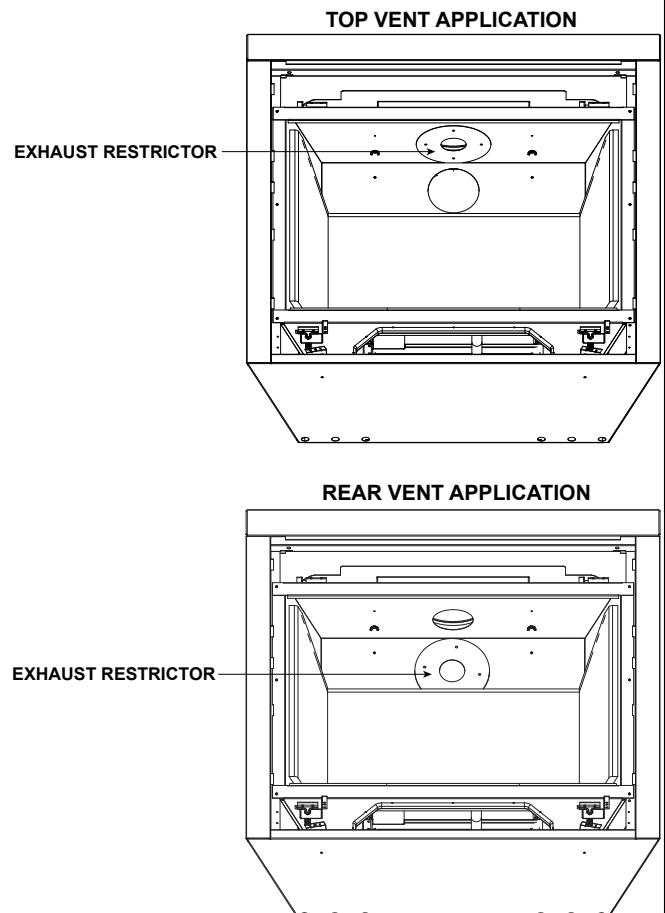

Figure 4.16 Exhaust Restrictor Installation
1. Install the exhaust restrictor over the center of the exhaust outlet in the firebox. See Figure 4.16.